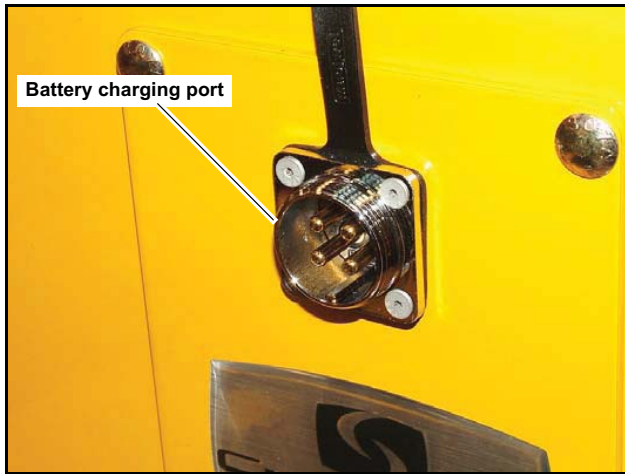

Fig. 5-2
The battery charging port is located on the kick panel, next to the operator's left leg. Fig. 5-2
1. Remove the dust cap from the battery charging port on the mower and plug charger into the port. Fig. 5-2